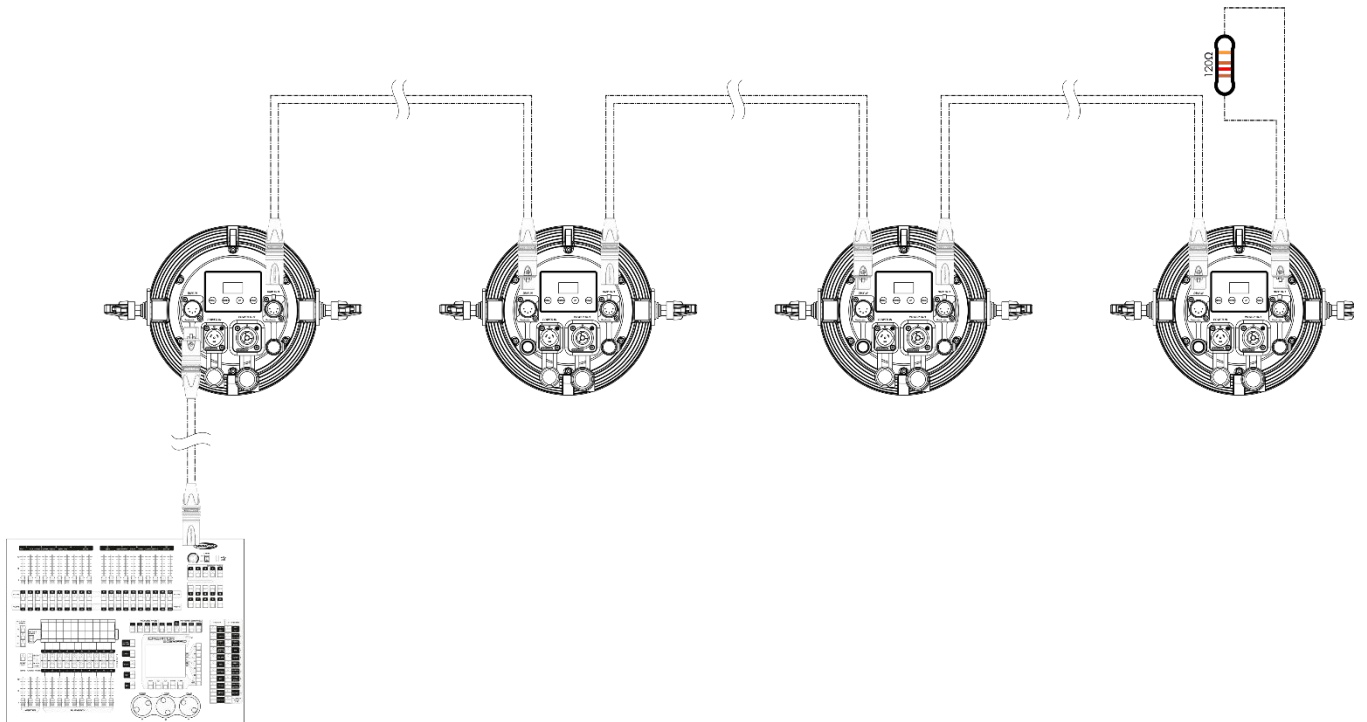

Fig. 04
- 04) Link the units as shown in Fig. 04. Connect a light controller to the first unit's DMX "in" socket, using a DMX cable. Connect the first unit's "out" socket with the second unit's "in" socket, using a DMX cable. Repeat this process to link the rest of the units.